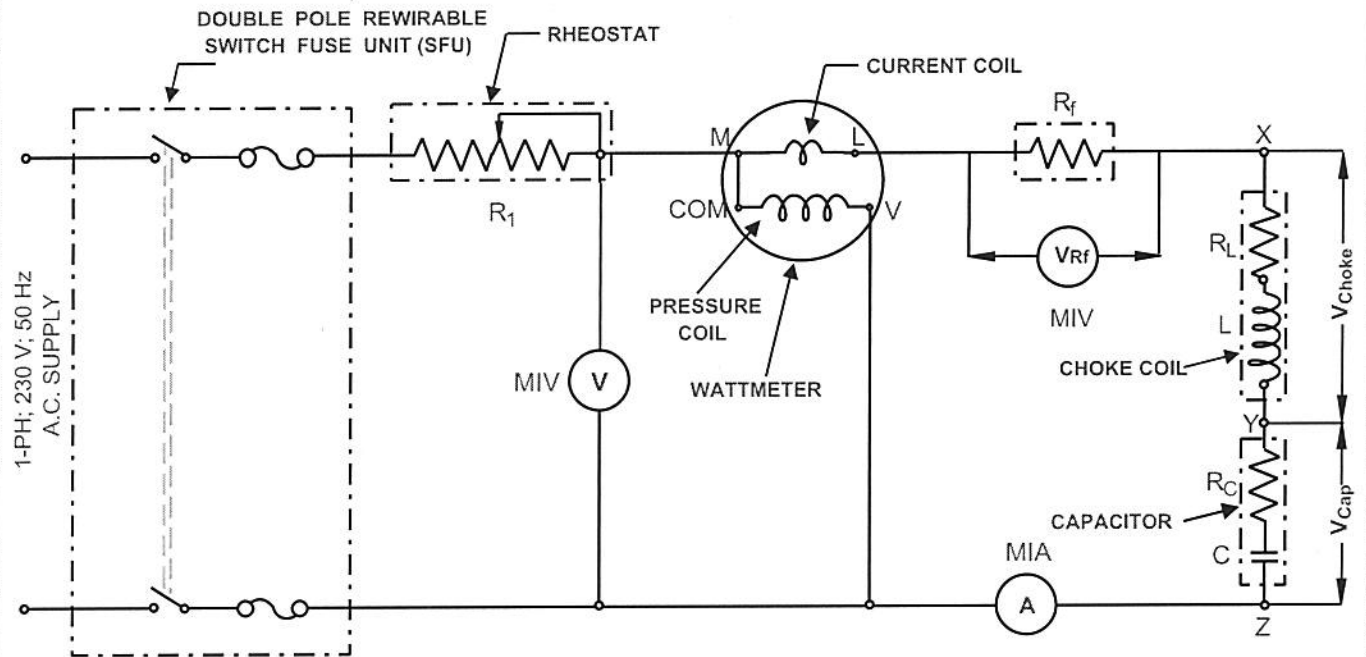

Fig:3.2 Circuit Diagram For Study of R-L-C Series Circuit
- 1) Connect as shown in Figure.3.2.